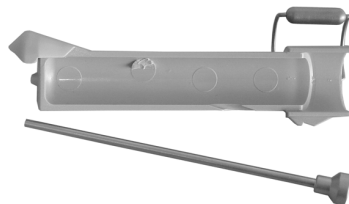
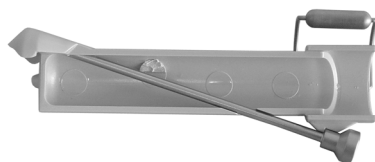

Figure 5. Biopsy channel bracket and needle guide before assembly.
Figure 6. Biopsy channel bracket with the needle guide in place.
The transducer is prepared for transrectal puncture or biopsy by pulling a sterile transducer cover over the transducer, placing the appropriate needle guide in the UA1257 channel bracket (see Figure 5 and Figure 6) and clipping the channel bracket onto the transducer (See “Mounting a Transrectal Puncture Guide” on page 13.).
- 3 Slide the needle guide into the biopsy channel bracket as shown in Figure 6.